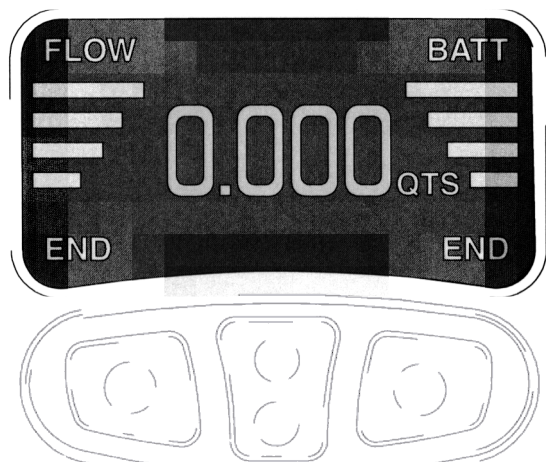

FIG. 12
5. Press END to complete the job. See FIG. 12. This logs the dispense to the PC and returns the meter to the cleared Operating screen.